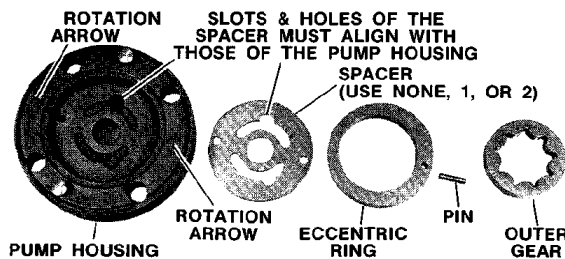

Figure 2-1. Pump Housing Assembly
See Figure 2-1. Use the following procedure:
1. See Figures 2-1, 2-2, and 2-3.